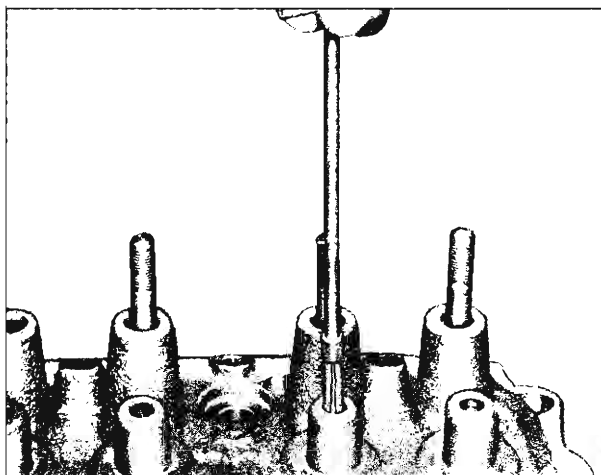

Fig. 14—Cleaning Valve Guide Bores
2. Thoroughly clean the valve guides using Tool J-8101 (fig. 14).